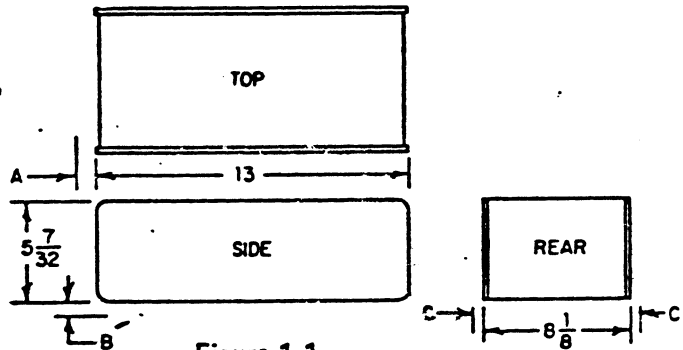

Figure 1-1.
**MECHANICAL SPECIFICATIONS (See Figure 1-1.)**